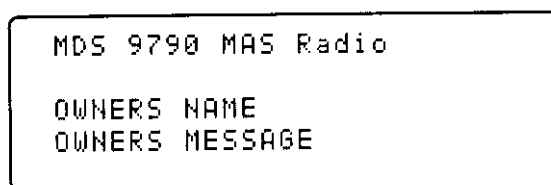

Figure 17. Start-up screen (typical)
- The LCD (liquid-crystal display) shows the start-up screen, similar to Figure 17
At initial power-up, the LCD display shows the start-up screen (Figure 17). After a period of time without any activity, the LCD display darkens. The display can be restored by pressing any of the front panel buttons.